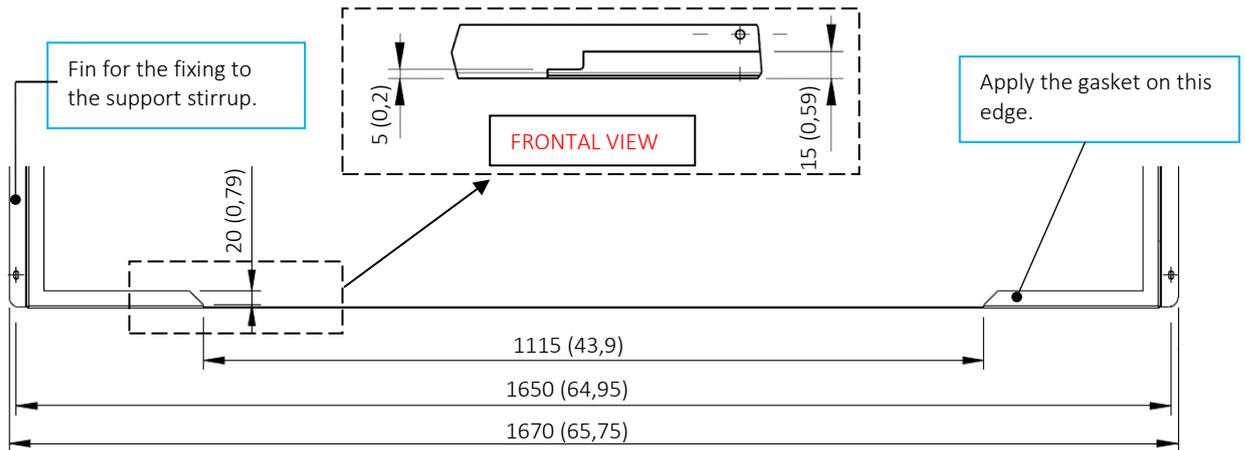
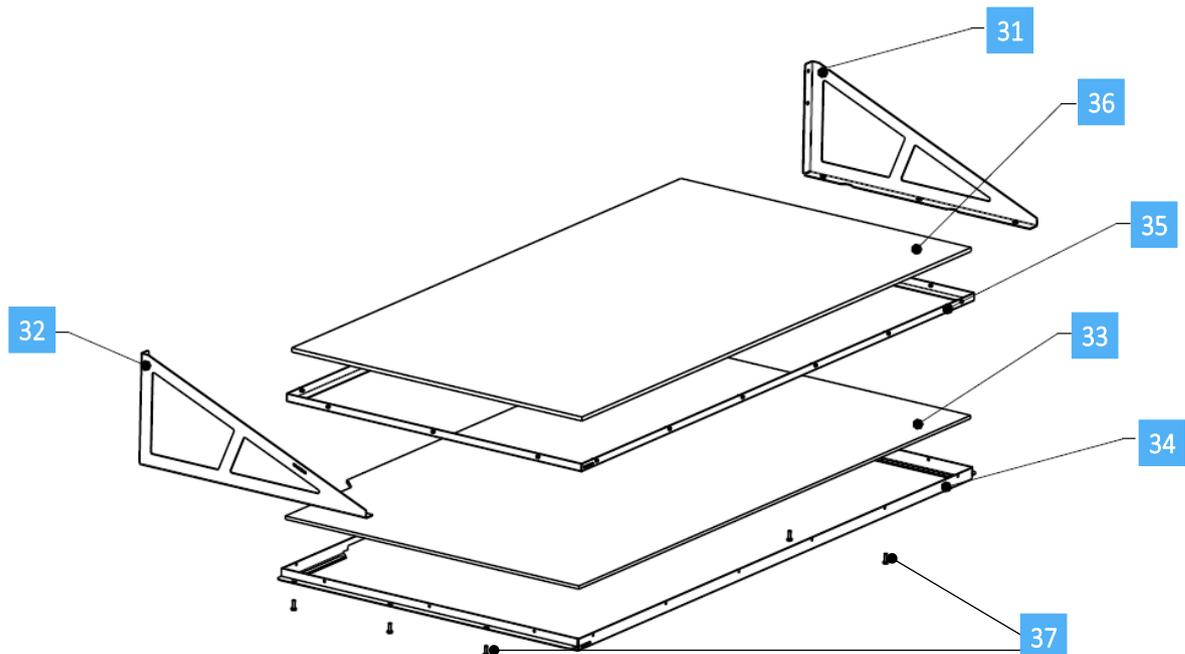
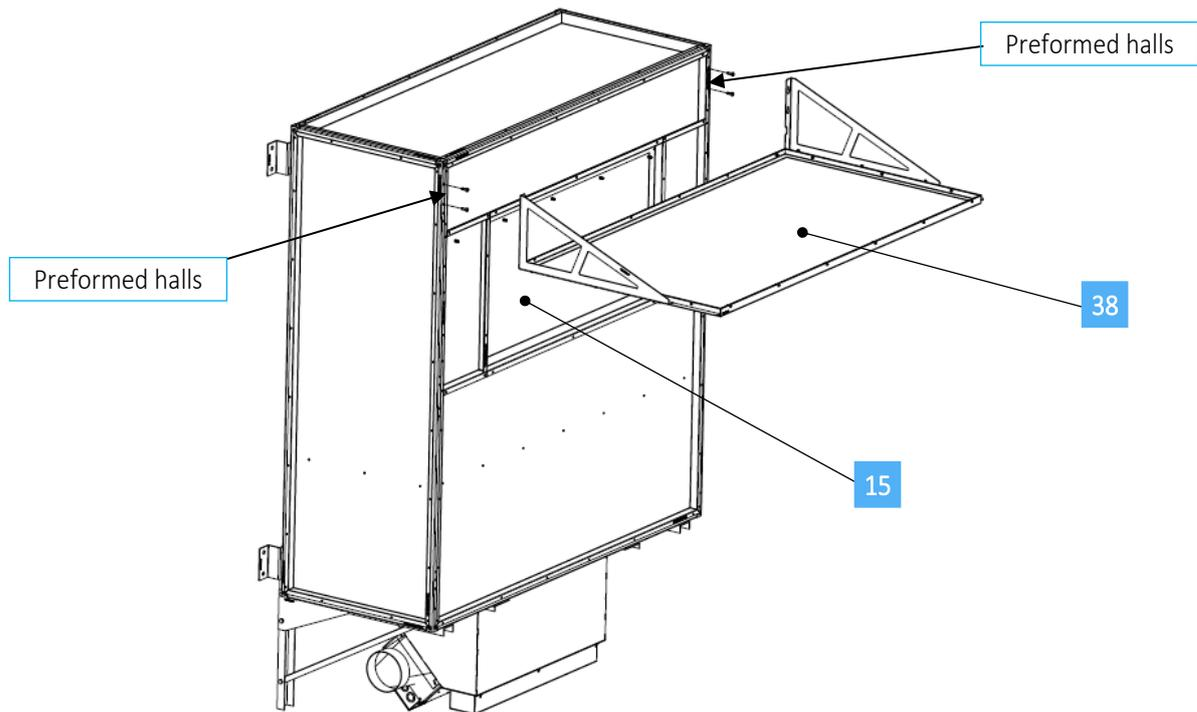

Fig. 35 Particular of frame [34]. Detail: frame cut to insert the protruding part of the mirror. Dimensions mm (in).
Fig. 36 Montaggio struttura portante dello specchio esterno
Fig. 37 *Mounting of mirror ensemble to the dark.*
- 1 Rest frame [34] (PN 73-00169-01) on support structures used during dark box assembly and paste the gasket (provided within the kit) on the edge where will placed the (Figure 35). Take frame [35] (PN 73-00170-01) and paste the gasket along the bottom side of the internal edge that will rest on the mirror.
- 3 Using provided M6 screw [37], fix the fins of frame [34] (figure 35) with the bottom part of stirrups [31] and [32], as reported in figure 36 (place fins under stirrups). Start to insert provided M6 screw in the preformed halls of the dark box (figure 37). Than lift mirror ensemble [38] (at least 2 people), insert the screw just mounted into the halls on the side of the stirrups [31] and [32] (figure 37) and tighten them. The protruding part of the mirror [33] must be in contact with the Coelux® plastic panel [15]: pay graet attention to not scratch it.